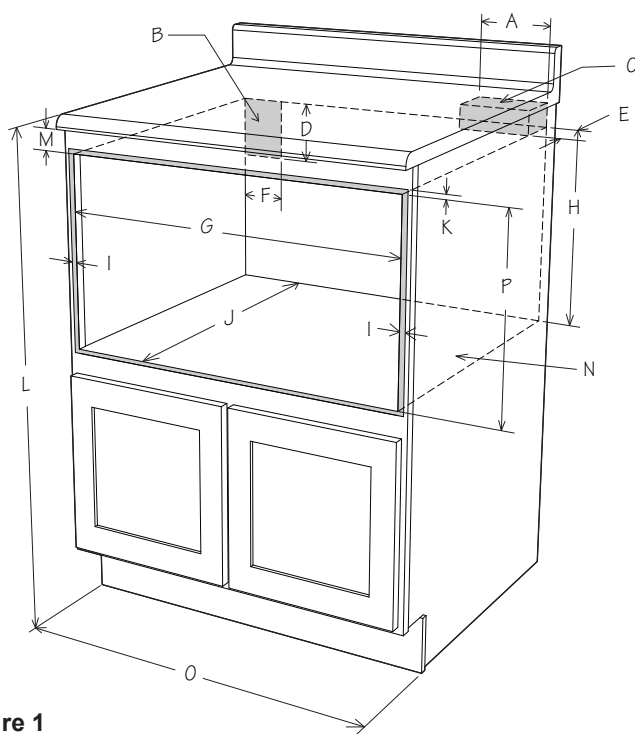
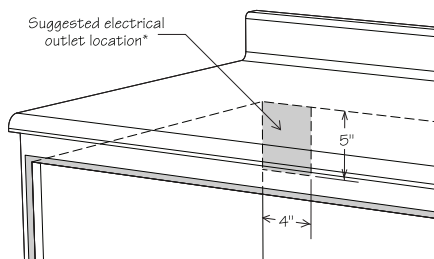

Figure 1
Figure 9
Do not install this appliance in any combustible cabinetry, which is not in accord with the stated clearances and dimensions on pages 2–5. See Figures 1–7.
- Dimensions shown in Figure 1 must be used. Given dimensions provide minimum clearance. Locate electrical outlet in the shaded area in the upper left-hand corner of the cutout. See Figure 9.
Figures 1 and 2 contain many measurements for reference when planning the Sharp Microwave Drawer™ Oven location.
To reduce the risk of tipping of the drawer, the Anti-Tip block must be properly installed located  $14\frac{13}{16}$ " above the floor on which the Sharp Microwave Drawer™ Oven will sit. The 6" Anti-Tip block must be provided by the installer. See Figure 1. The Anti-Tip block prevents serious injury that might result from spilled hot liquids.